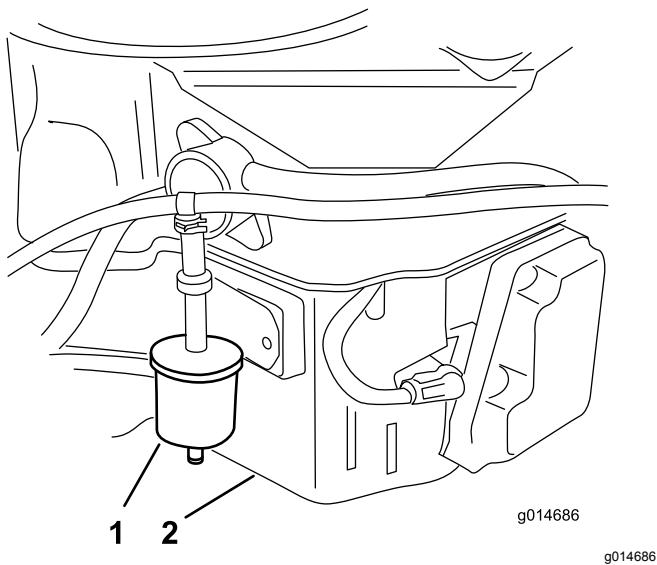

Figure 32
3. Remove the existing fuel-vent filter (Figure 32).